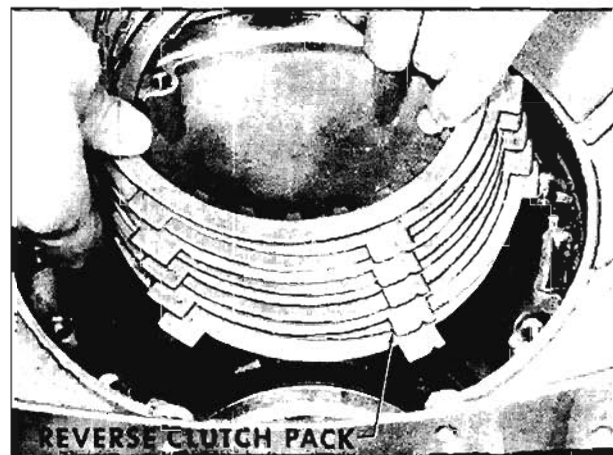

Fig. 6-292 Removing Reverse Clutch Pack
3. Remove reverse clutch pack from transmission case. (Fig. 6-292)